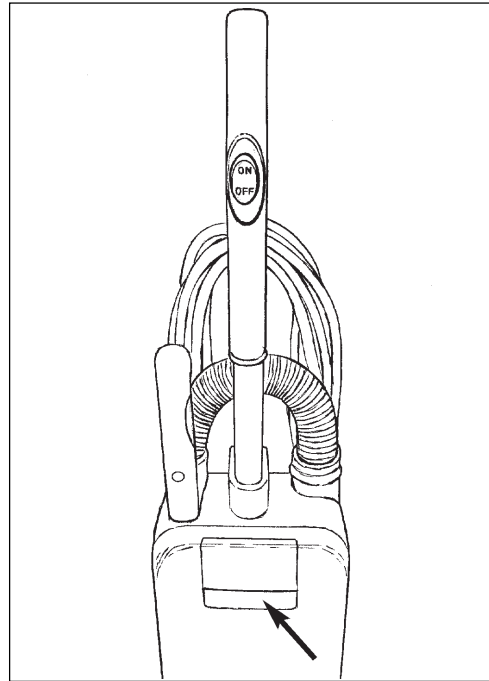

Figure 17
2. Open the front of the canister housing. To open the canister housing, lift the release handle (see figure 17).